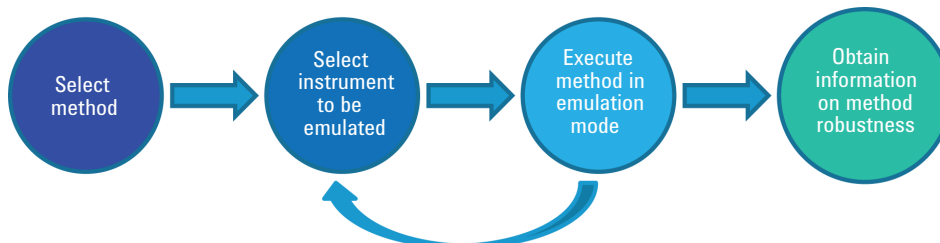

Figure 3 Method robustness testing
- Method robustness testing, see Figure 3 on page 7